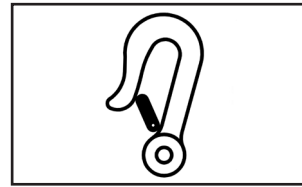

Figure 2
- The positions of the four attachment points on the Canto Nxt are indicated with a hook symbol sticker (see figure 2).